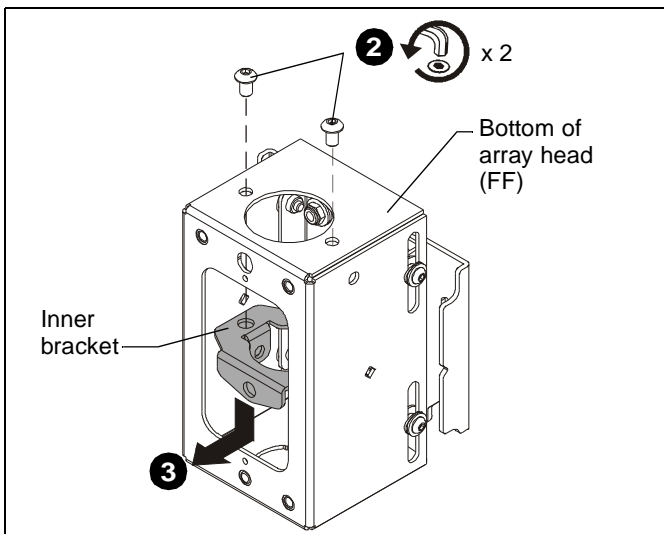

Figure 1
- Turn the array head (FF) upside down. (See Figure 1)
- Remove **AND SAVE** two buttonhead screws from array head. (See Figure 1)
- Remove and discard inner bracket from array head. (See Figure 1)